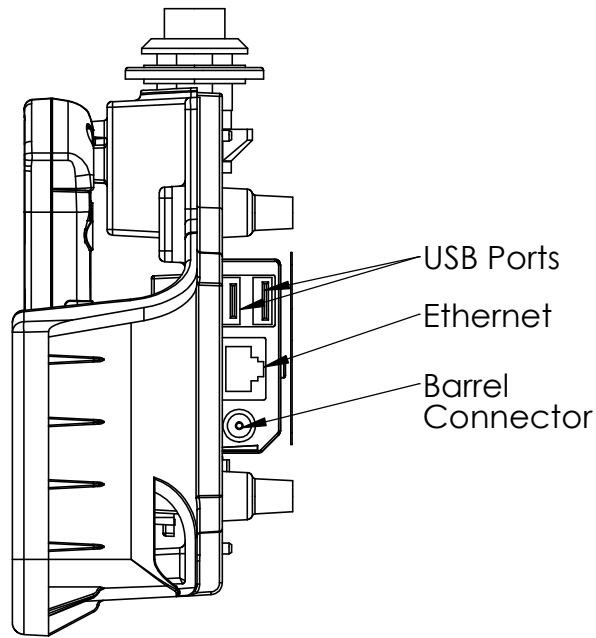

Figure 2. Ports
1. The dock requires 12 volts DC input. Depending on the configuration of the dock power can be supplied from Lind #PA1220-3910 (Barrel Connector) or Lind #PA1220-3618 (Square Connector). Connect the appropriate power supply to the dock (Figure 2 and 3)
2. Connect Ethernet and USB devices to the dock as desired (Figure 2).